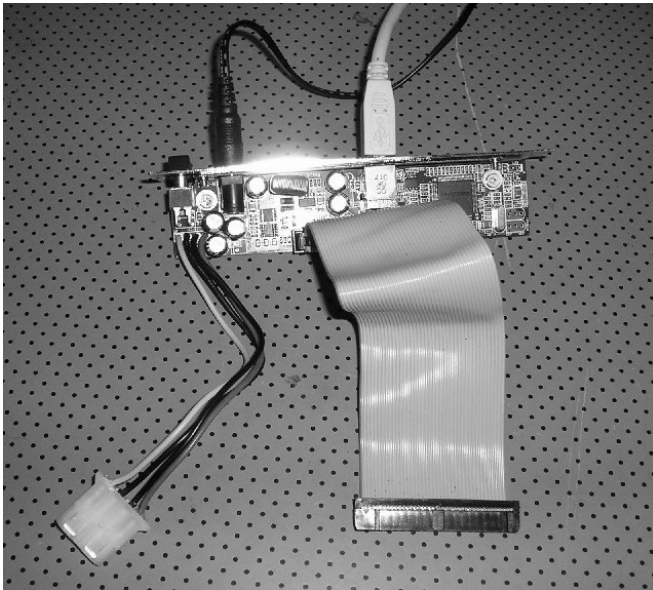

Figure 8-1 , USB to ATAPI adapter
- USB to ATAPI adapter, (standard computer equipment) see figure 8-1.